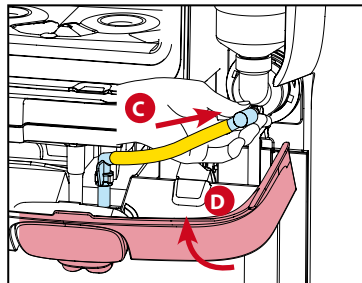

Fig.17
4. Replace the tube on the mixer bowl (C), and snap the outlet nozzle on the mixing tray. The display will show WATER TREATMENT PANEL REMOVED, close the panel (D) and the machine will automatically return to normal dispensing functions. (see fig.17)